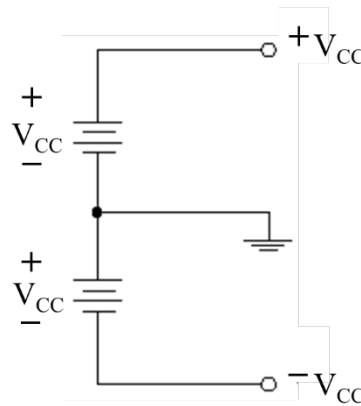

Figure 2-4 Power supplies configuration
1. Prepare the power supplies for $+V_{CC}$ and $-V_{CC}$ to ensure the proper voltages, +15V and -15V, respectively. See Figure 2-4.